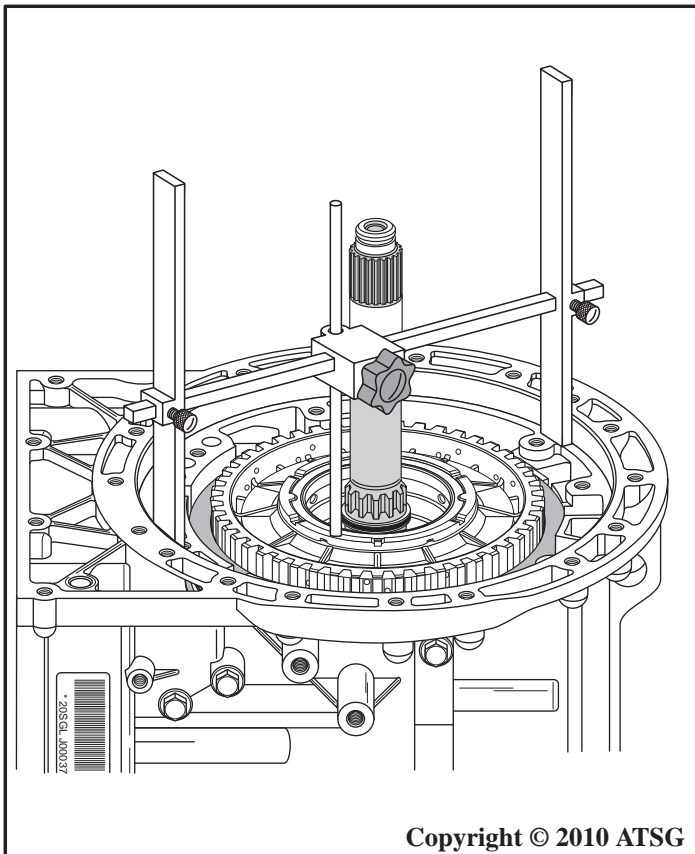

Figure 223
42. Now turn "H" gage over and set it on completed oil pump assembly, as shown in Figure 223, with adjustment rod over one leg of B1 clutch piston.
43. Measure with feeler gauge between adjustment rod and B1 clutch piston to determine the B1 clutch clearance, as shown in Figure 223.
44. B1 clutch clearance should be approximately .010" per friction plate installed, as shown in Figure 223.
45. Install "H" gage on the transmission case pump surface, as shown in Figure 223, and lower the adjustment rod to the surface of the number 1 thrust washer and tighten the adjustment rod locking knob.